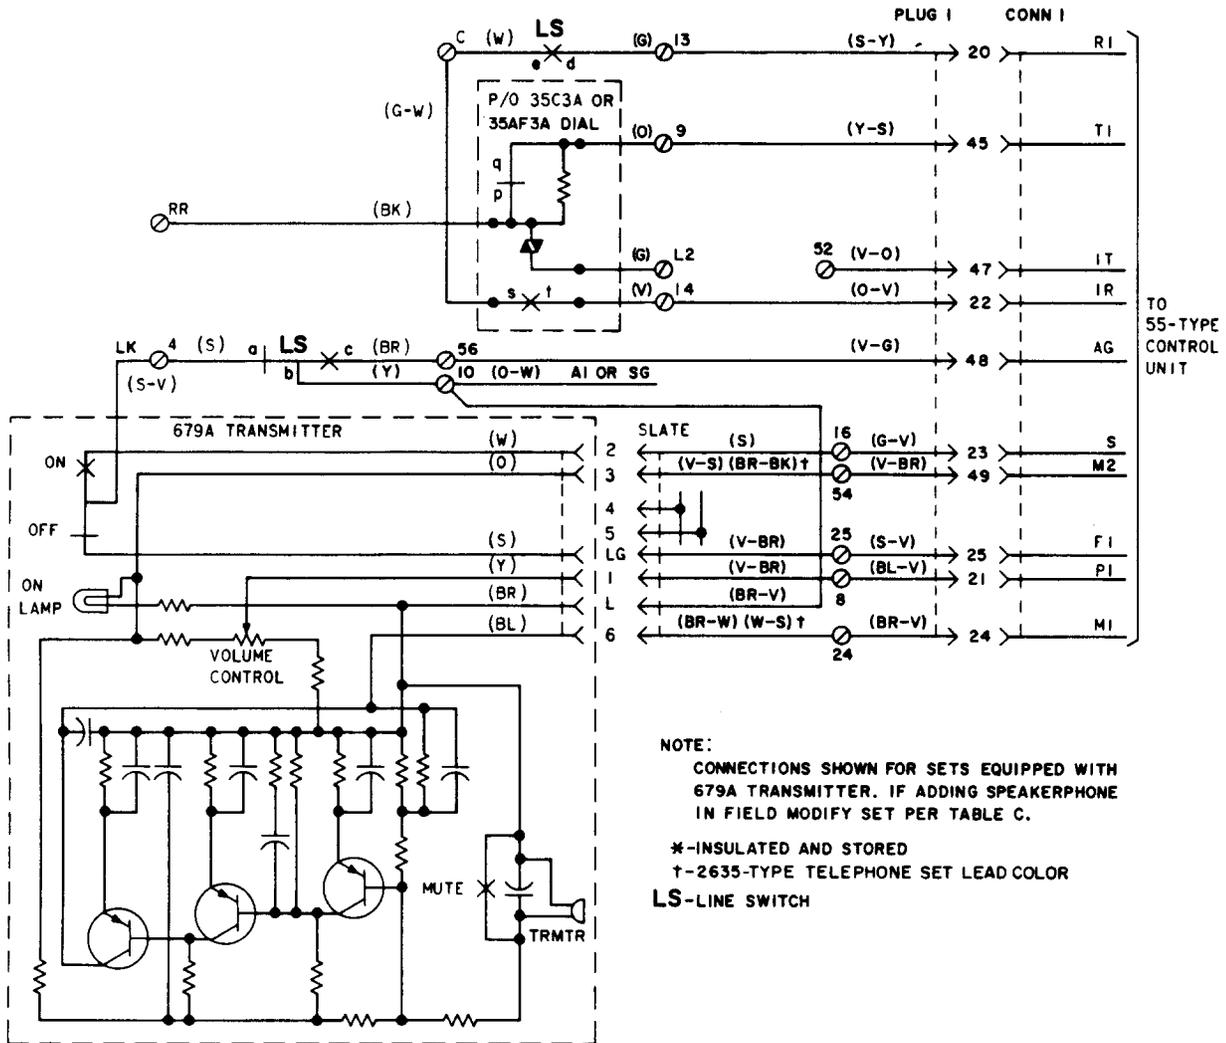

Fig. 5—3-Type (MD) Speakerphone Connections
2.09 For 3-type (MD) speakerphone operation, a 679A transmitter may be installed in 3rd or 5th module of 2634- or 2635-type set, respectively. For necessary wiring changes and connections, see Table C and Fig. 5.
Note 2: Connect the slate plug from the 3rd or 5th module to the 679A transmitter (Fig. 5). All other plugs in the module are insulated and stored.